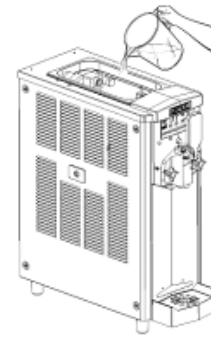

Fig. 36
- Fill the top tank with hot water (Fig. 36) and wait a few minutes.